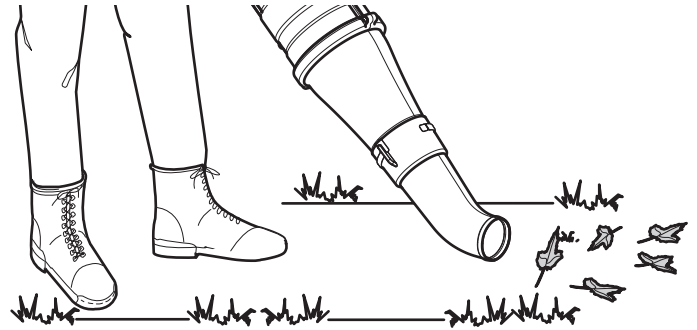

Fig. 7
- Use the nozzle for hard-to-reach places, such as corners in a garage, or to control dust in a dust-laden environment (Fig. 7).